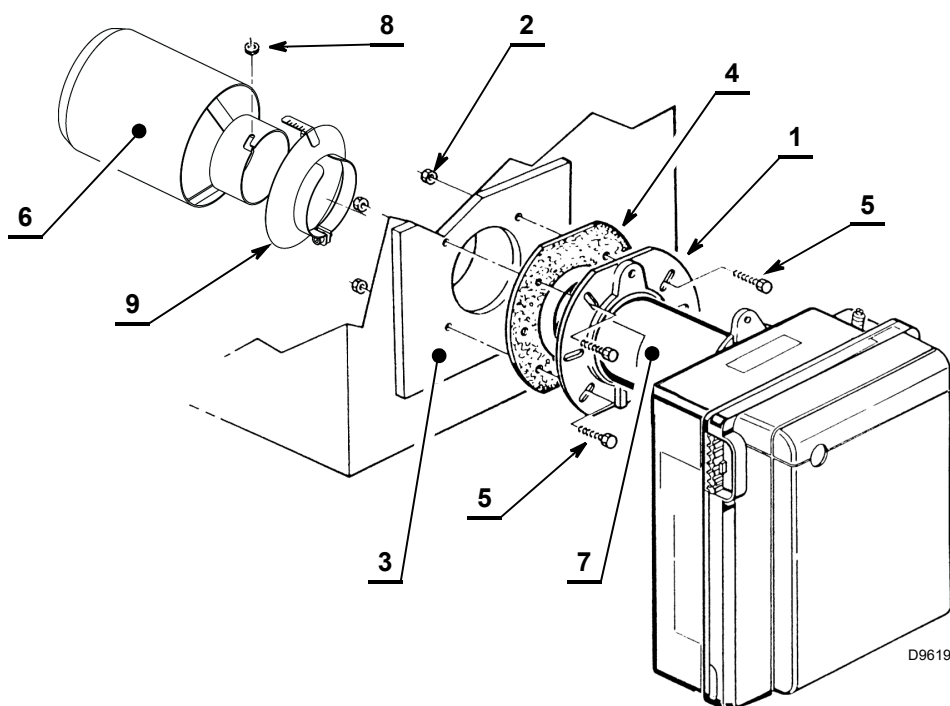

Fig. 10
- Fix the flange 1) to the boiler door 3) using the screws 5) and (if necessary) the nuts 2) interposing the insulating gasket 4)(Fig. 10).
- Insert the recirculating pipe 6) on the blast tube of the burner 7), and fix it with the nut 8)(Fig. 10).